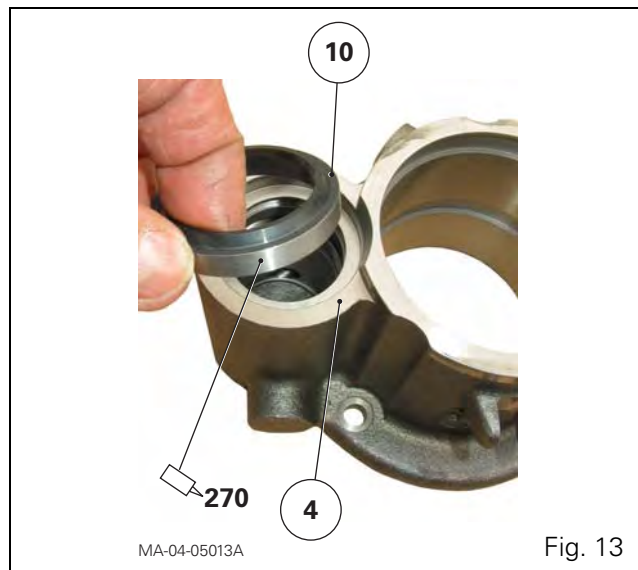

Fig. 13
56. Use the same calibration method for the guide rings (11) and composite seal (12) (24) in the second slave cylinder.
57. Fit the wiper seals (10) (Fig. 13).
Replacing a slave cylinder wiper seal (10) (Fig. 13)
58. Lightly smear the rim of the wiper seal (10) with Loctite 270 or equivalent. Fit the wiper seal in the front counterbore of the slave cylinder (4) using a press and a suitable fixture.